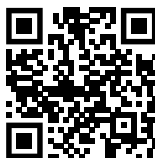

Fig. 151
- ▶ Åbn Liebherr SmartMonitoring Dashboard. (se Fig. 151)